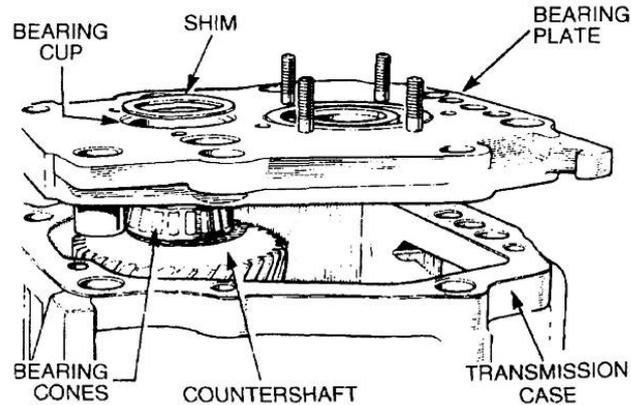

Figure 182 Adjustment of the Countershaft Bearing Pre-load
- m. Install the front bearing plate and gasket on the transmission case and insert the four studs. Using suitable spacers fit the bell housing retaining nuts, washers and bolts and tighten them securely (Figure 182).
- n. Press in the front bearing cup until all end-play is taken up and there is no load on the bearings. Install a suitable shim so that there is approximately 0.25 mm (0.010 in) standing proud of the bearing plate (Figure 182).